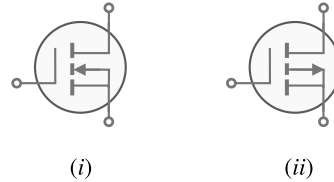

Fig. 17.66
**Schematic Symbols.** Fig. 17.66 (i) shows the schematic symbols for  $n$ -channel  $E$ -MOSFET whereas Fig. 17.66 (ii) shows the schematic symbol for  $p$ -channel  $E$ -MOSFET. When  $V_{GS} = 0$ , the  $E$ -MOSFET is OFF because there is no conducting channel between source and drain. The broken channel line in the symbols indicates the normally OFF condition.